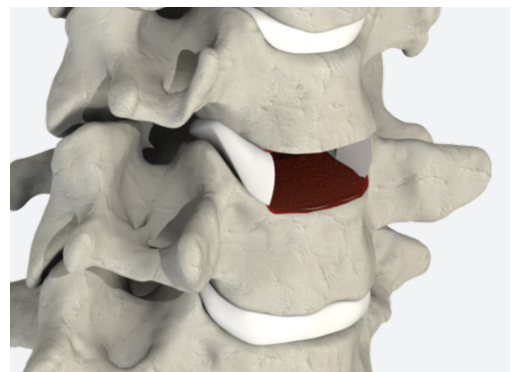

Figure 3
- ▲ Perform an annulotomy and subsequent discectomy between the uncovertebral joints and posterior longitudinal ligament as necessary (Fig. 3).